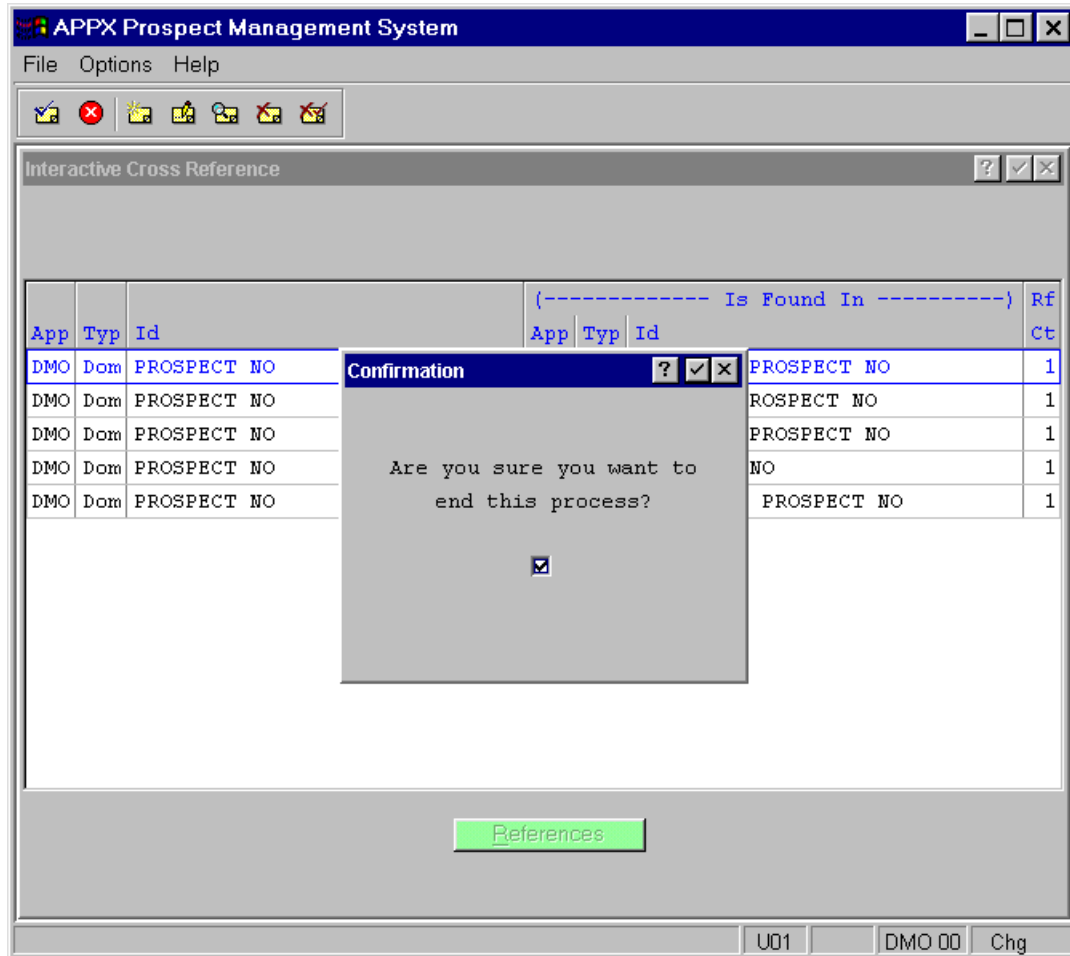

Figure E1.13 – Exit confirmation
- After you have finished reviewing the fields that reference the **PROSPECT NO** domain, press **ESC** to exit from the **Domains Cross-Reference Utility**. You are presented with a **Confirmation** screen to confirm that you wish to exit the process (*Figure E1.13*).